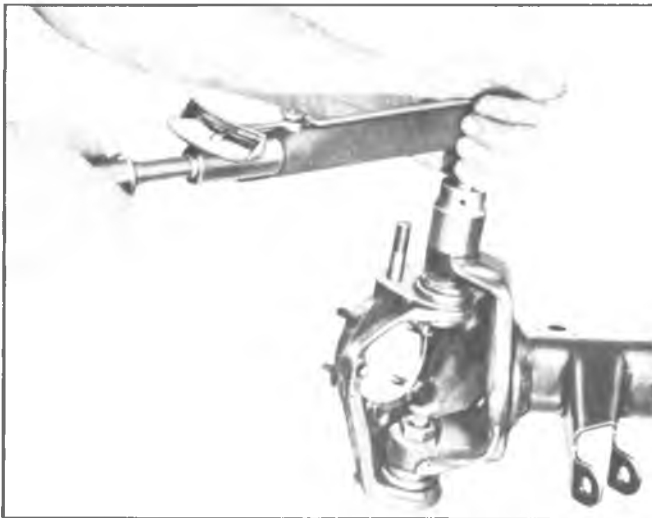

Fig. 68—Torquing Upper Ball Socket Nut
6. Torque the upper ball socket nut to 100 ft. lbs. as shown in Figure 68. After torquing the nut, do not loosen to install cotter pin, apply additional torque, if necessary, to line up hole in stud with slot in nut.